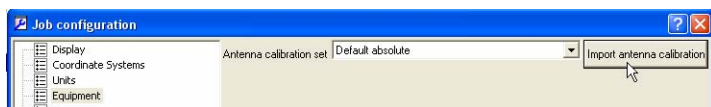

Figure 11-48. Import Antenna Calibration File
- Click **Job ► Job Configuration**, select *Equipment* and click the **Import antenna calibration** button in the left panel. The **Open** dialog box displays (Figure 11-48).